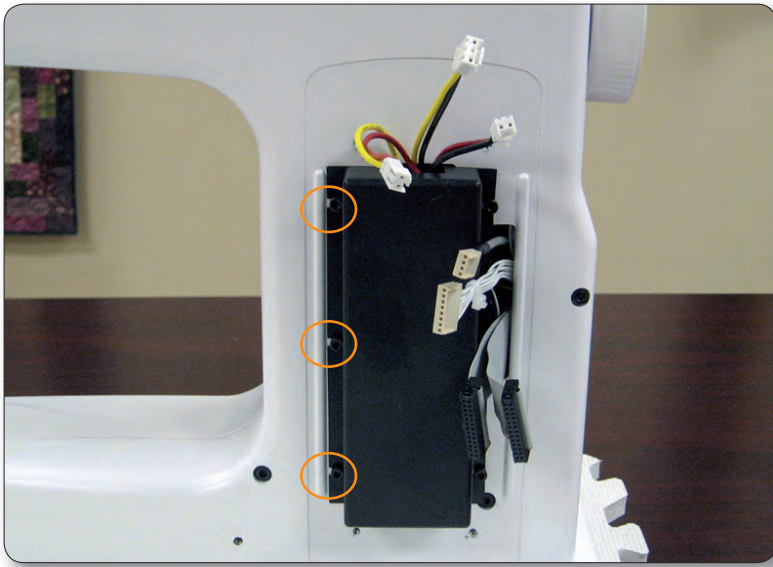

Figure 2.9
6. To remove power supply, loosen the 3 screws on the right side and remove the 3 screws on the left side (shown circled in orange in Figure 2.9). Slide the power supply to the left and unplug the bottom cable. (Figures 2.9-2.11)